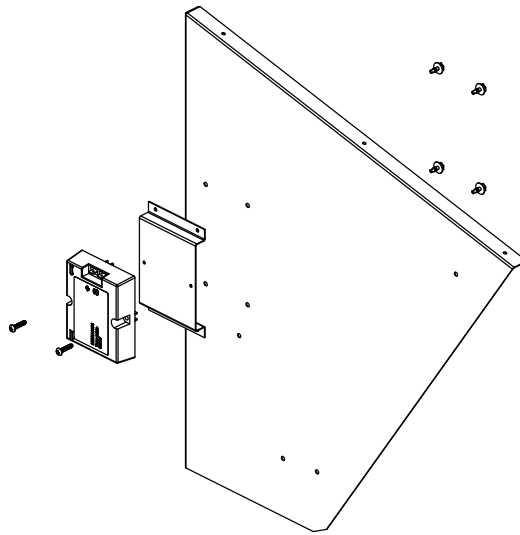

Fig. 31 - OAT Bracket Installation
6. Open economizer hood package found on the top skid. Mount OAT sensor to its assigned bracket by screwing together with provided two #8 fasteners. Afterwards install OAT sensor to the right side hood panel with the provided #10 screws. See Fig. 31.